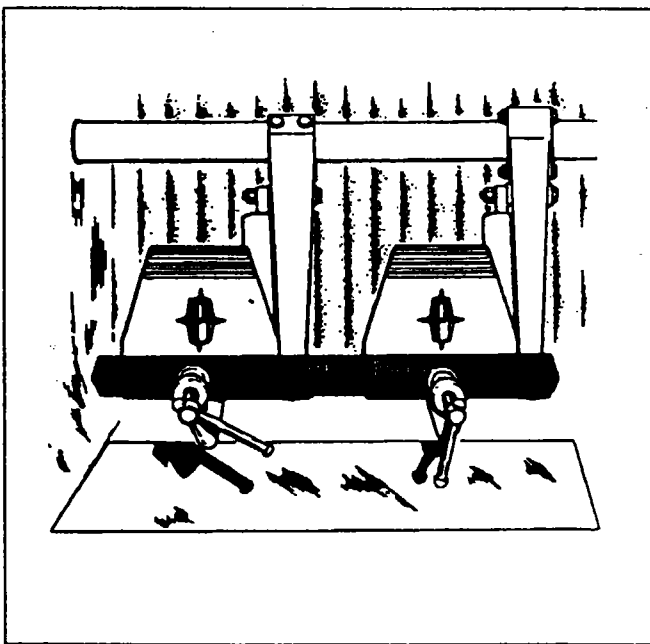
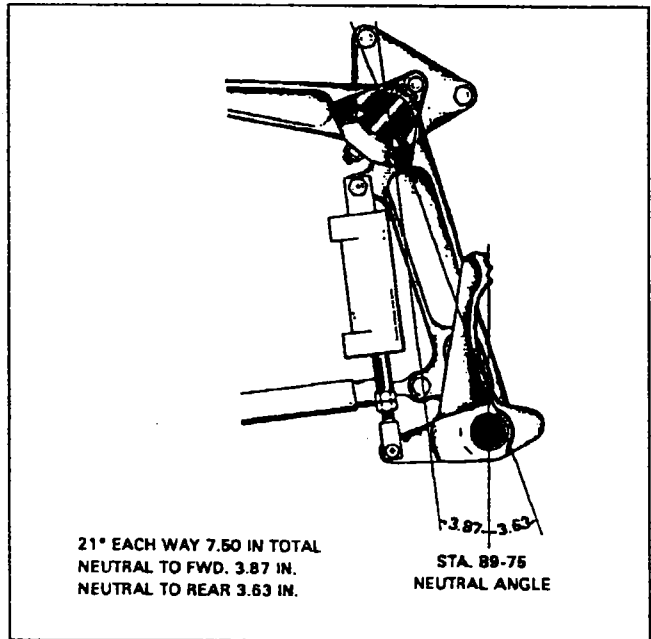

Figure 7-3 Clamping Rudder Pedals in Neutral Position
Figure 7-4 Rudder Pedals Neutral Angle
7. Clamp rudder pedals to align in a lateral position. (Refer to Figure 7-3.)
8. Adjust the rod end bearings of each steering rod to align the nose wheel with the chalk line and to bring the rudder pedals into neutral angle for and aft. To align the nose wheel straight forward, stand in front of the nose gear and align the center rib of the tire with the chalk line or lay a straight edge along the side of the tire and paralleled the straight edge with the chalk line. The neutral angle of the rudder pedals is at station 89.75 and center of the rudder pedal tube. (Refer to Figure 7-4.) One end of each rod must be disconnected and jam nuts loosened to make this adjustment, but do not attempt to make the adjustment by means of one bearing, but divide the adjustment between the bearings at each end of each rod. Check that rod ends have sufficient thread engagement, reinstall rods and secure jam nuts.
4. Clamp the rudder pedals to align in a lateral position. (Refer to Figure 7-3.) Adjust the rod end bearings of each steering control rod to align the plumb bob with the center line marked on the jig and to bring the pedals in neutral angle for and aft. The neutral angle is at station 89.75 and center of the rudder pedal horizontal tube. (Refer to Figure 7-4.) Do not attempt to make the adjustment by means of one bearing, but divide the adjustment between the bearings at each end of the steering rods. Check that rod ends have sufficient gripping thread by ascertaining that a wire will not go through the check hole in the rod, and then tighten locknut